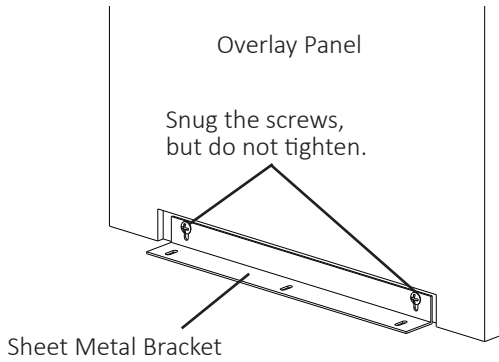

Fig. 13
- 1) Fasten the sheet metal bracket to the overlay panel using the two M4x8 truss head screws provided. Snug the screws, but do not tighten (See Fig. 13).